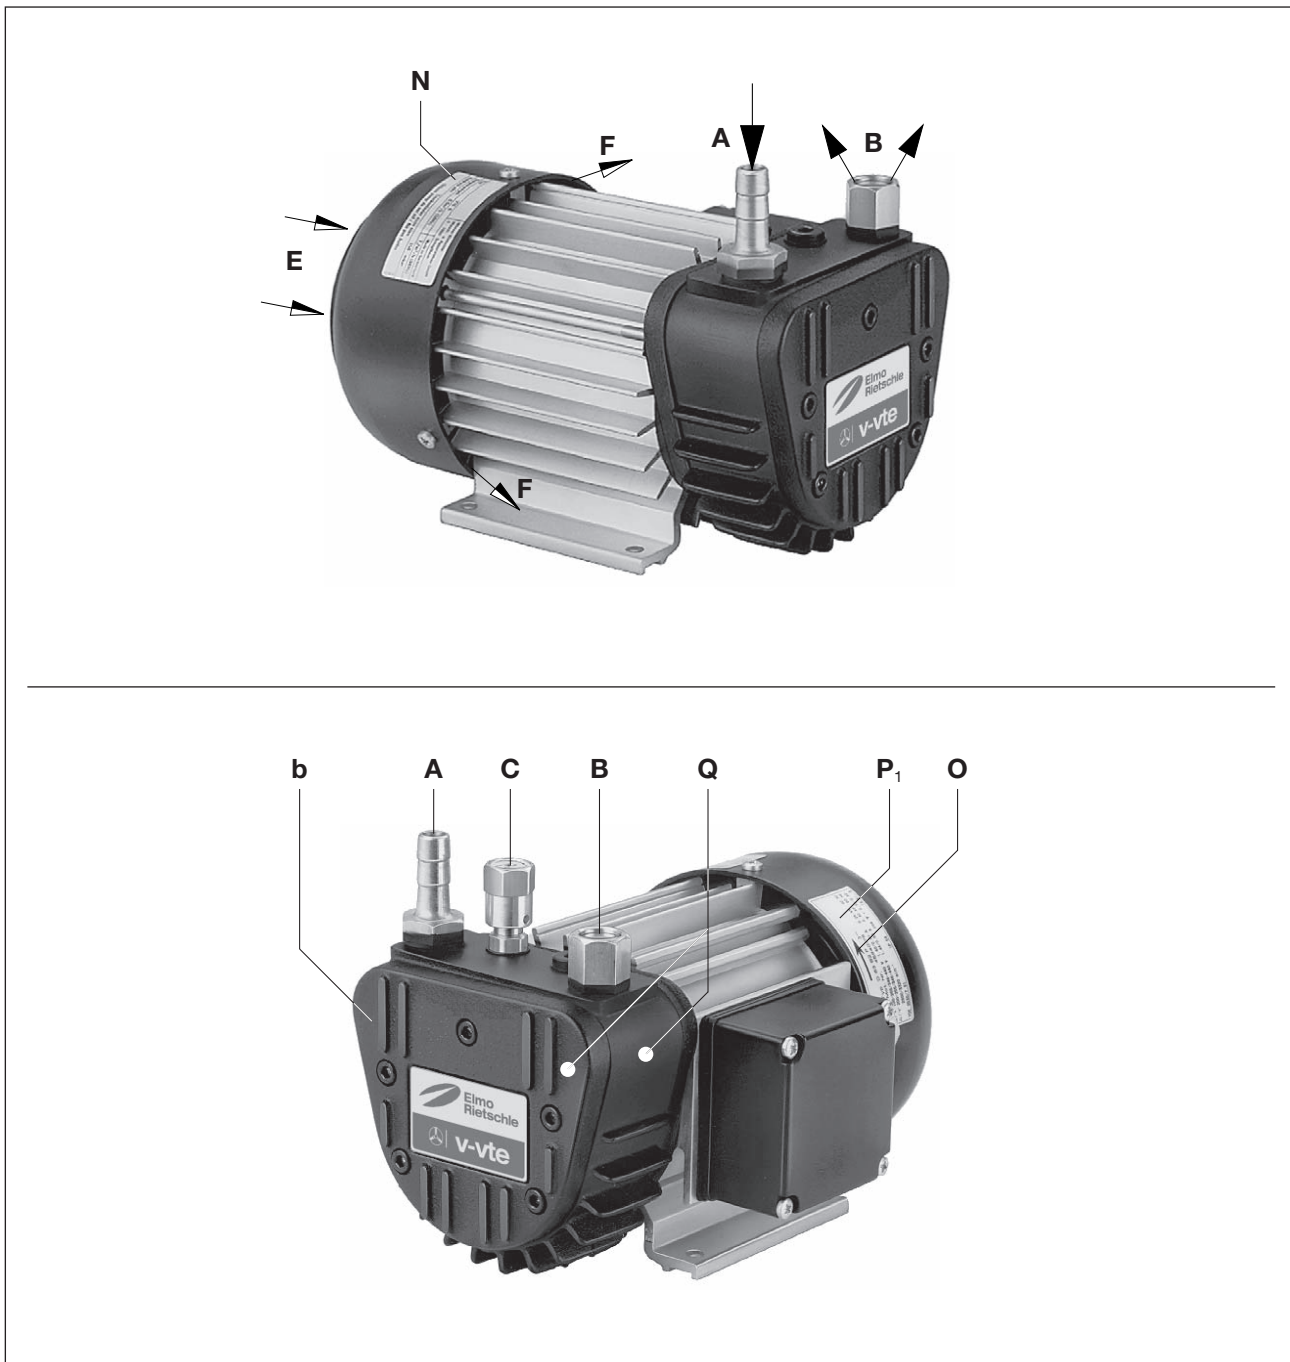

Fig. 1 Vacuum pump V-VTE
There must be a minimum space of 20 cm in front of the housing cover (Fig. 1/b) for servicing. The cooling air entries (Fig. 1/E) and the cooling air exits (Fig. 1/F) must have a minimum distance of 8 cm from any obstruction. The discharged cooling air must not be recirculated.
- a) Vacuum connection at (Fig. 1/A).
The air handled can be exhausted into the atmosphere through the exhaust port (Fig. 1/B) or by utilising a pipe connection and pipeline.
The vacuum can be set by turning the control knob (Fig. 1/C) as shown on the symbol fitted to the button.
- a) The electrical motor data can be found on the data plate (Fig. 1/N) or the motor data plate (Fig. 1/P_i). The motors comply with DIN EN 60034 and are in protection class IP55 and insulation class F. The appropriate connection diagram is located in the motor's terminal box (not for the plug connection version). The motor data must be compared with the data of the existing mains network (current type, voltage, network frequency, permitted current value).
When the machine is at operating temperature the surface temperatures on the components (Fig. 1/ Q) may go above 70°C.
- ▷ The drive shaft direction of rotation is shown by the rotation direction arrow (Fig. 1/O).
During maintenance work there is the danger of getting burnt on hot components (Fig. 1/Q). Wait for the machine to cool down.